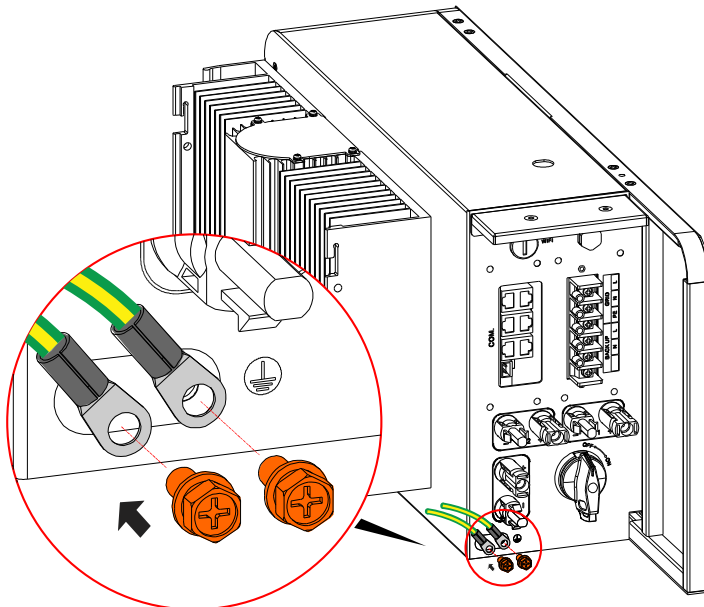

Figure3-25 External grounding wire connection
Step 2 Connect the crimped grounding wire to the external grounding terminal, as shown in Figure3-25.